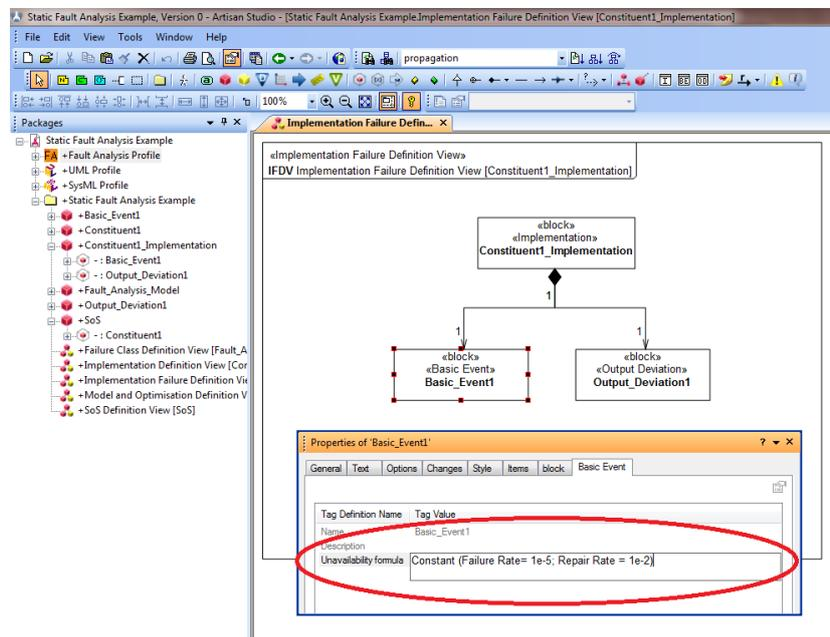

Figure 15: Enter a valid *Unavailability formula*
2. Click on the “Tag Value” cell for the *Unavailability formula* tag and type in a valid *Unavailability formula* as shown in Figure 15